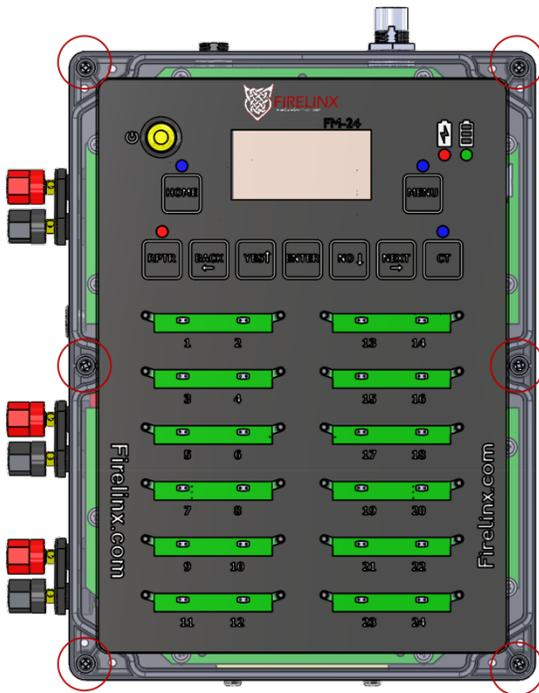

Figure 40
2. Remove the (6) outer enclosure screws (see figure 40)